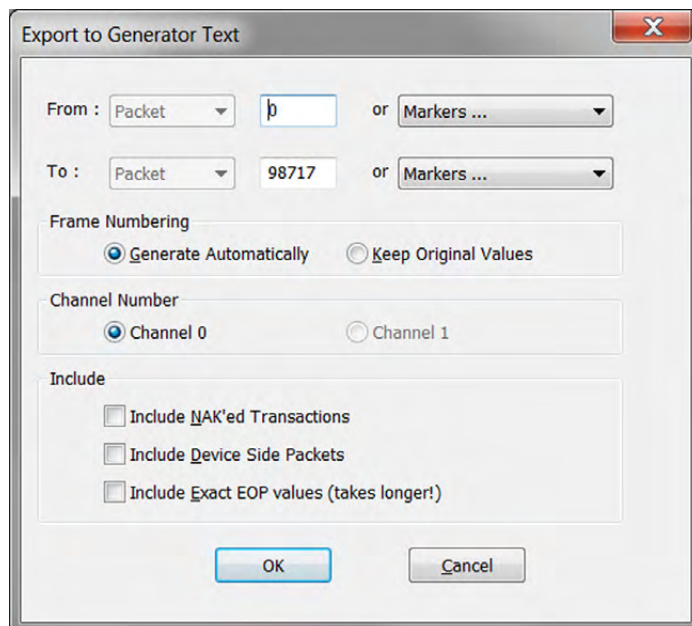

Figure 11.11: Export to Generator Text Window
4. Select **Packets to Host Traffic Generator Text File** from the **Export** drop-down menu. You see the **Export to Generator Text** dialog (Figure 11.11 on page 445).